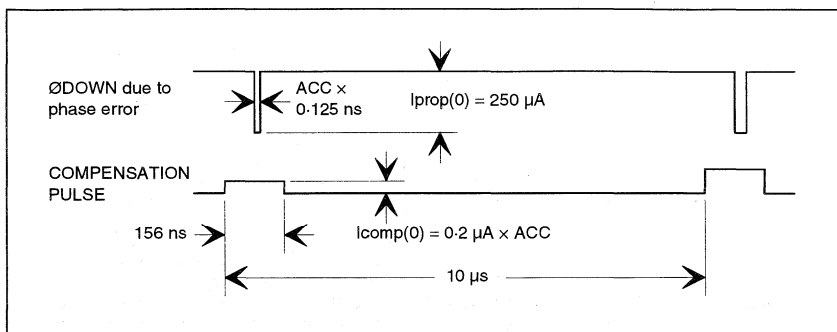

Fig. 28 Fractional-N Phase Error And Compensation Pulse
Typical timing waveforms for the phase error and its compensation are shown in figure 28 for a loop operating in  $1/8$  s mode (hence MOD = 8), with a VCO at 1 GHz, and a comparison frequency of 100 kHz (hence  $N_{TOT} = 10,000$  and  $f_{COMP}$  period =  $10 \mu s$ ) so that each phase error can be found from equation (4) as: